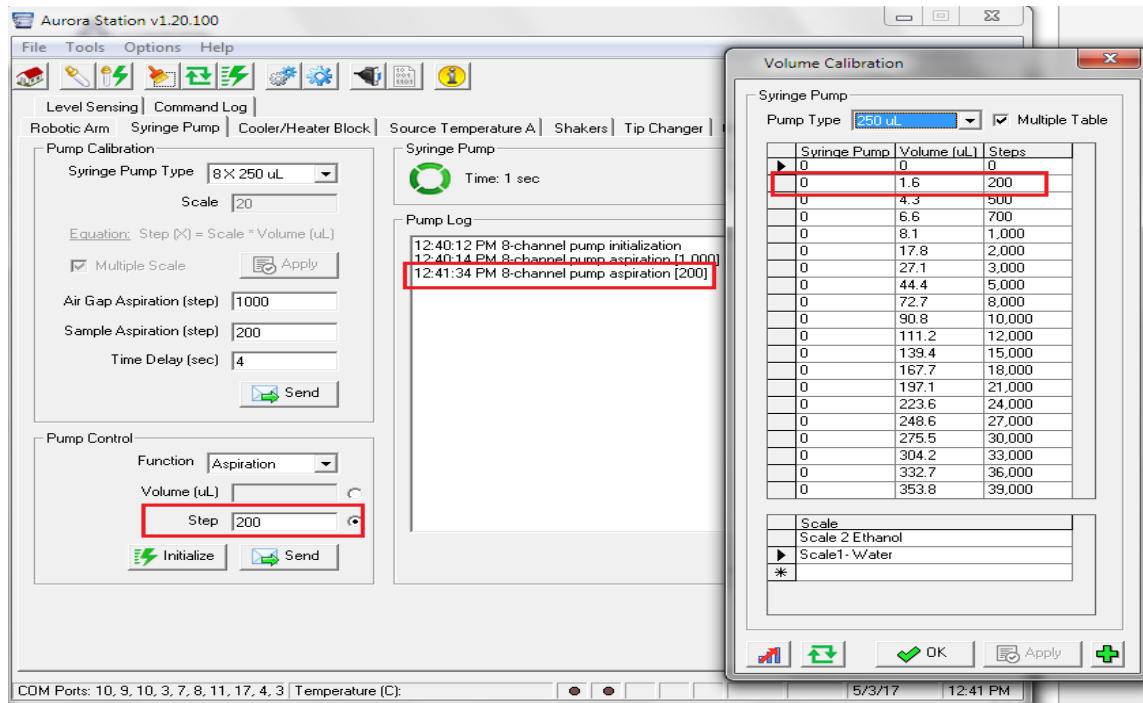

Figure 9-48 Syringe Pump Calibration-Aspirate volume
- 2 Enter 200 steps in the “Pump Control” section (1.6 μ L volume), and before clicking send insert a sample source under the pipette tip (*Figure 9-48 Syringe Pump Calibration-Aspirate volume*). You will see the solution aspirated into the tip.